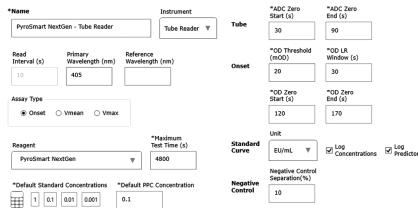

Figure 3: Pyros® eXpress Software Settings for PyroSmart NextGen® Assays
The settings for tube reader software are described in Table 6 or Figure 3 depending on the type of software used.
2. Set up the software using appropriate settings (see Table 6 for Pyros® EQS or Figure 3 for Pyros® eXpress) for the specific software in use.